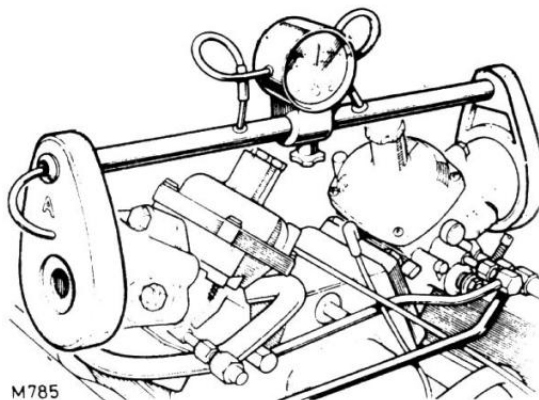

FIG. 86
9. If the air flow meter shown in **Fig. 86** is used it is necessary to: